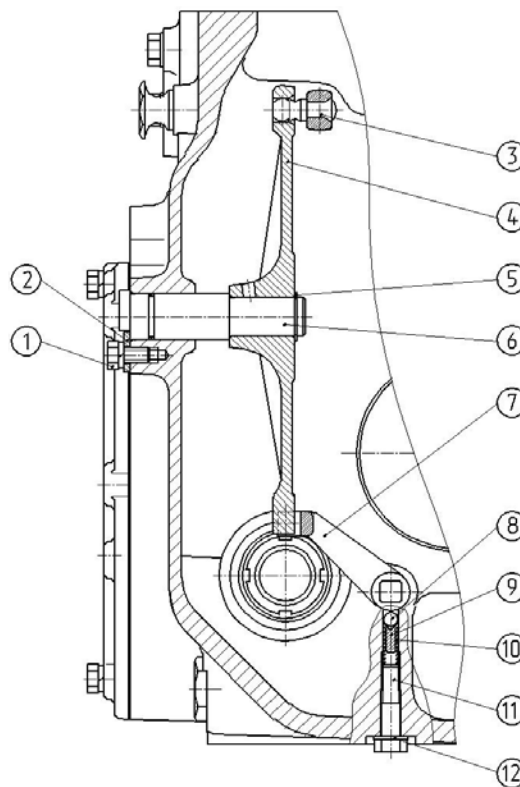

Figure 4.96
c) unscrew bolt 11 (Figure 4.96) and extract washer 12, spring 10, guide 9, ball 8 and lead 7;